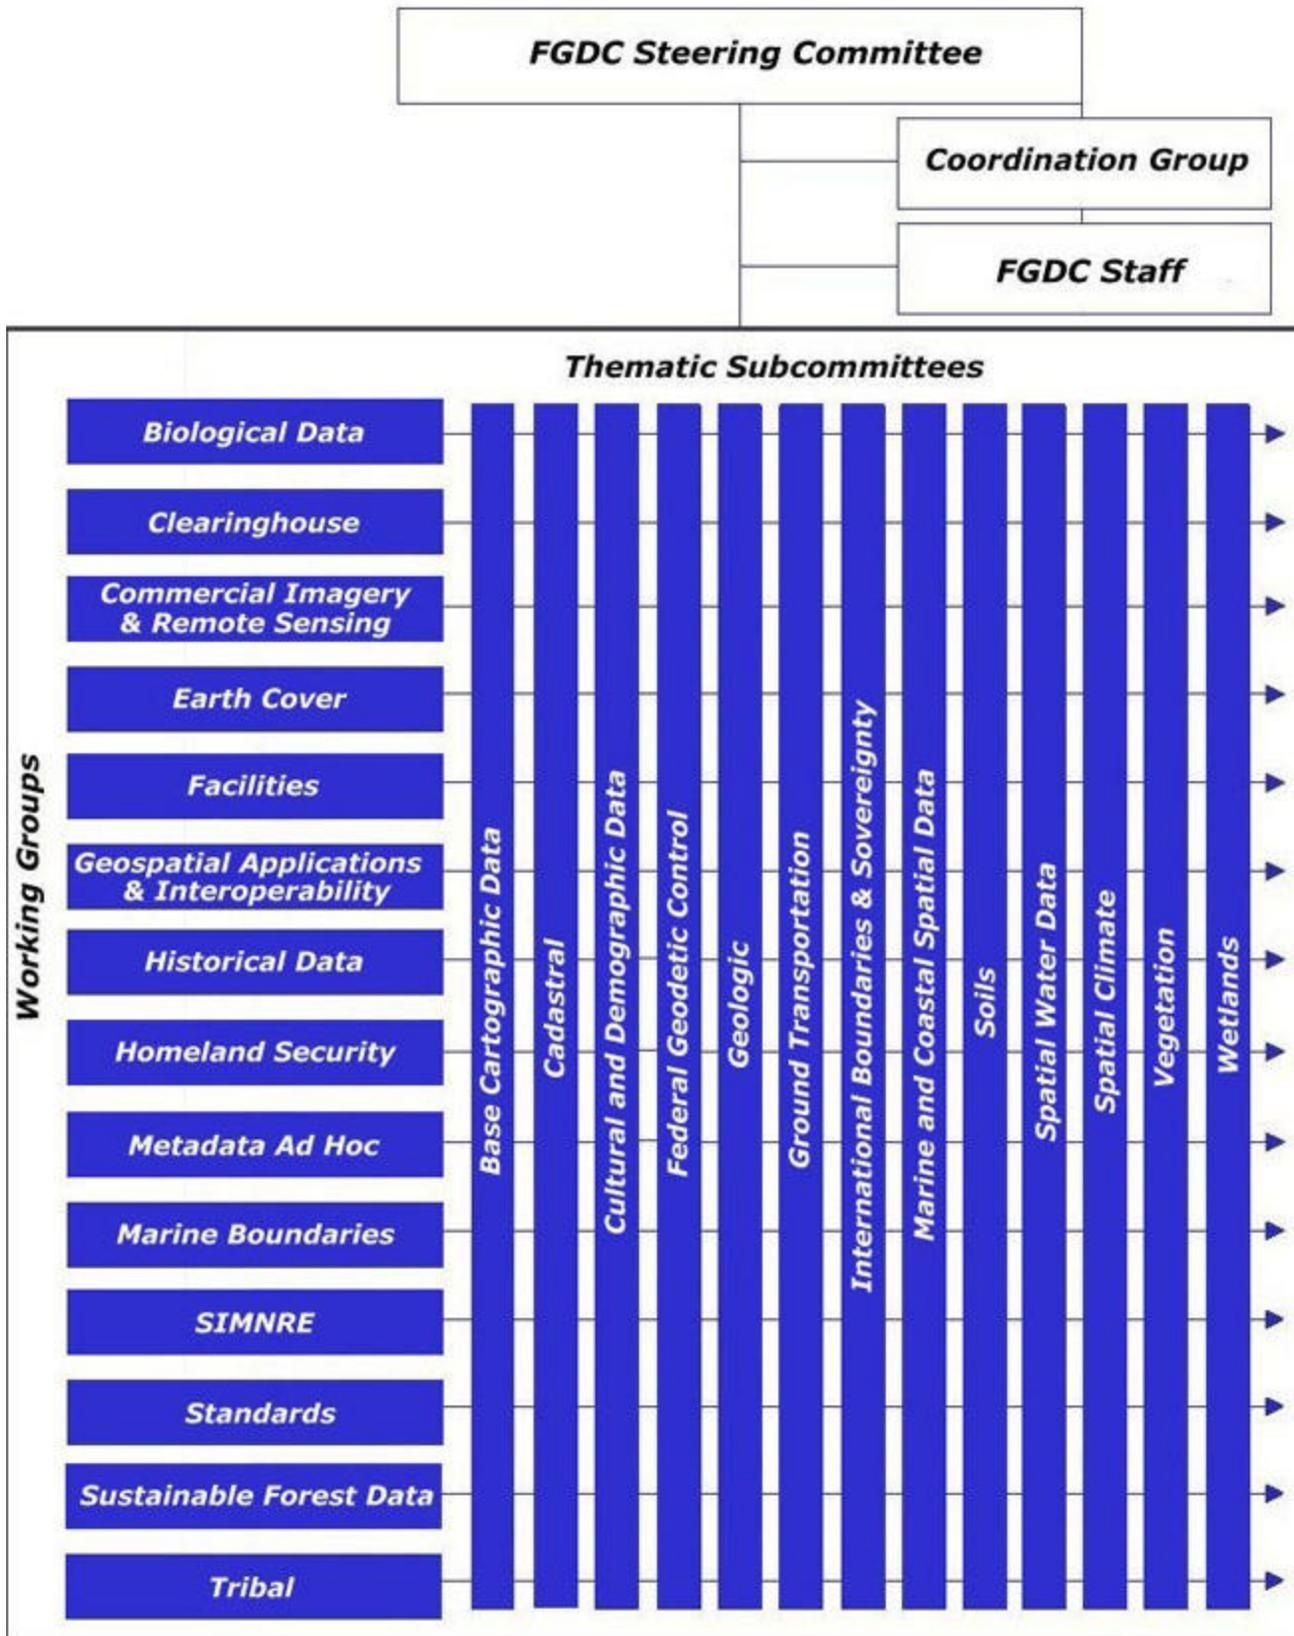

Figure 1. Organization chart
The FGDC began with 11 subcommittees and 3 working groups (Standards, Technology and Liaison) guided by the oversight Coordination Working Group. Today, there are 13 subcommittees and 14 working groups (WG) (see Figure 1). The most recent FGDC WGs address pertinent national issues including homeland security, marine boundaries, forest resources, tribal, and GIS operability.